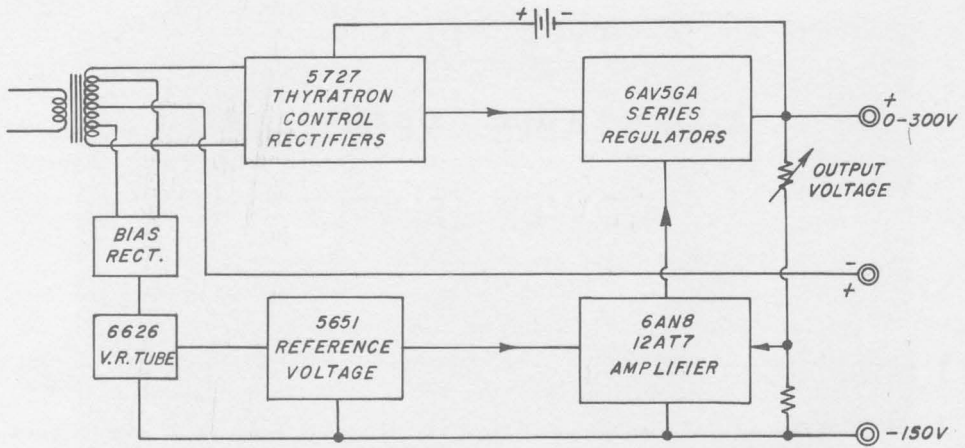

Figure 2. Block Diagram of Power Supply.
2.1 GENERAL. (See Figure 2). The Type 1205-B consists basically of two parts: a series-tube regulator, and a thyatron control rectifier. The series-regulator provides fast response, low-drift, and low output impedance over a wide frequency range. The usual high dissipation of such a circuit is averted by use of a thyatron control rectifier, which maintains a constant voltage drop across the series regulator.